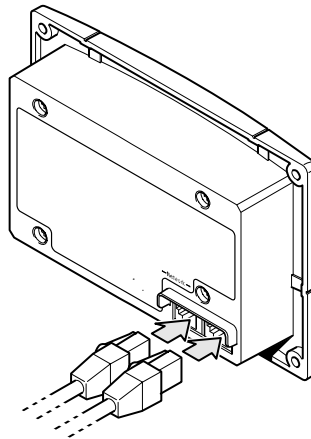

**Figure 2-8** Securing the Mounting Plate
4. Secure the mounting plate by tightening the two screws to rotate the tabs to the horizontal position (see Figure 2-8) and pull the tabs tight against the inner surface of the wall. Be careful not to overtighten the screws and damage the wall.